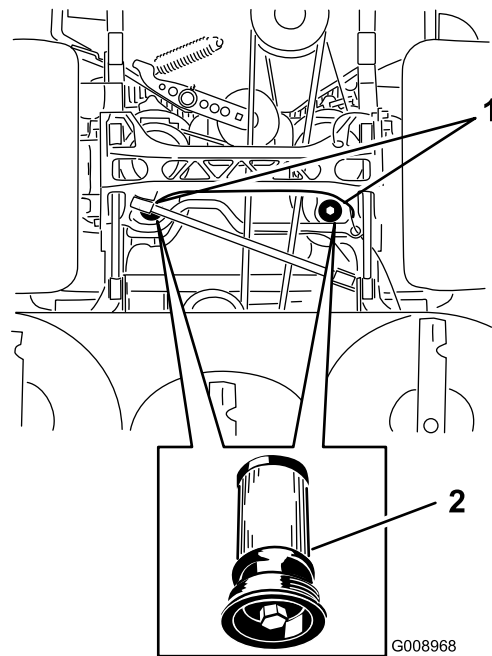

Figure 88
5. Place a drain pan under the filter, remove the old filter, and wipe the surface clean (Figure 88).
6. Apply a thin coat of hydraulic oil to the rubber gasket on the replacement filter (Figure 88).